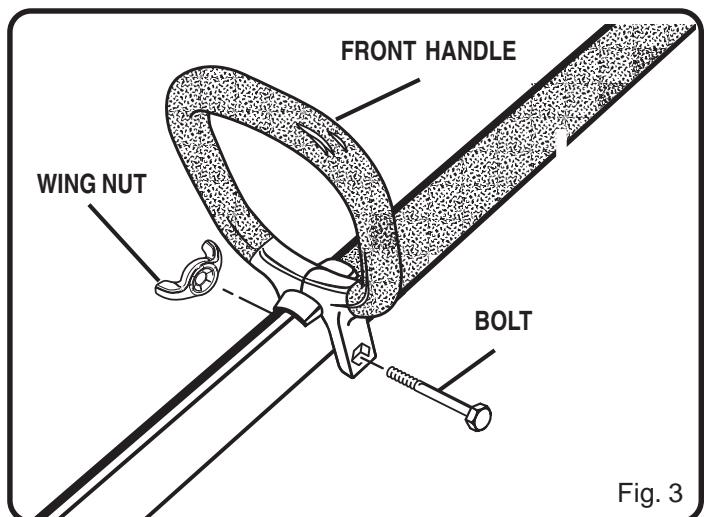

Fig. 3
See Figure 3.
**NOTE:** Do not attempt to remove or modify the spacer. This spacer limits the upper position of the handle grip. See Figure 3.